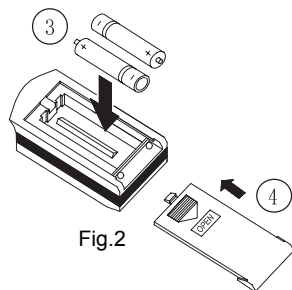

Fig.2
2. Take out the old batteries, insert two AAA alkaline cells. (As show in Fig 2.)